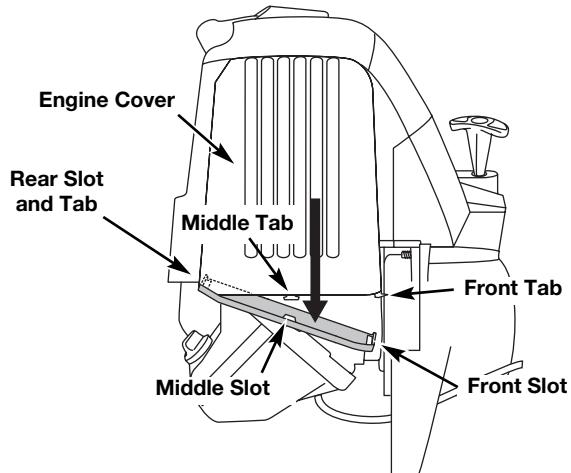

Fig. 30
- 1. Remove the muffler cover by pressing down on it, separating it from the engine cover. Using a flat blade screwdriver, disengage the middle and front tabs and slots first. The cover will hinge off from the rear tab (Fig. 30).
- Reinstall the muffler cover. Slip the rear tab on the muffler cover into the engine cover rear slot. Then slide the remaining slots into the tabs until they snap into place (Fig. 30).